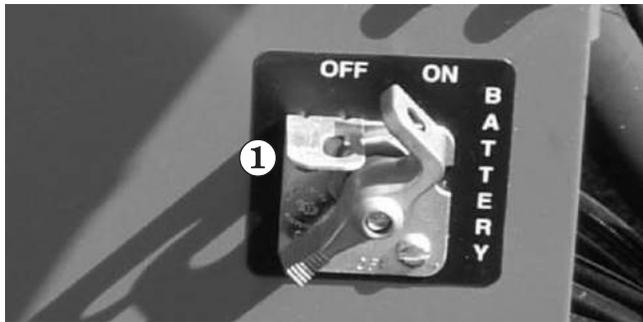

Figure 8.6
1. Set the **Battery** switch ① to on (see Figure 8.6).